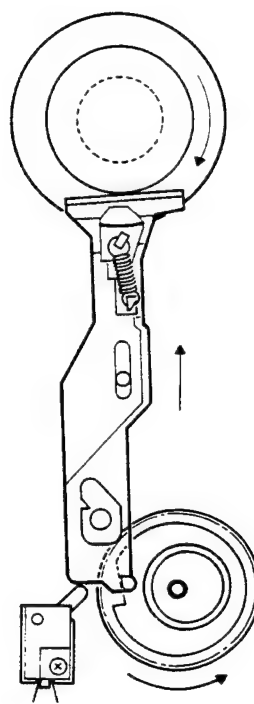

Fig. 14
- (5) With the sensing switch ON, the sensing cam gear turns further to release the sensing arm pin from the hook. The pin returns to an original position under a force of the sensing arm spring. (Fig. 14)